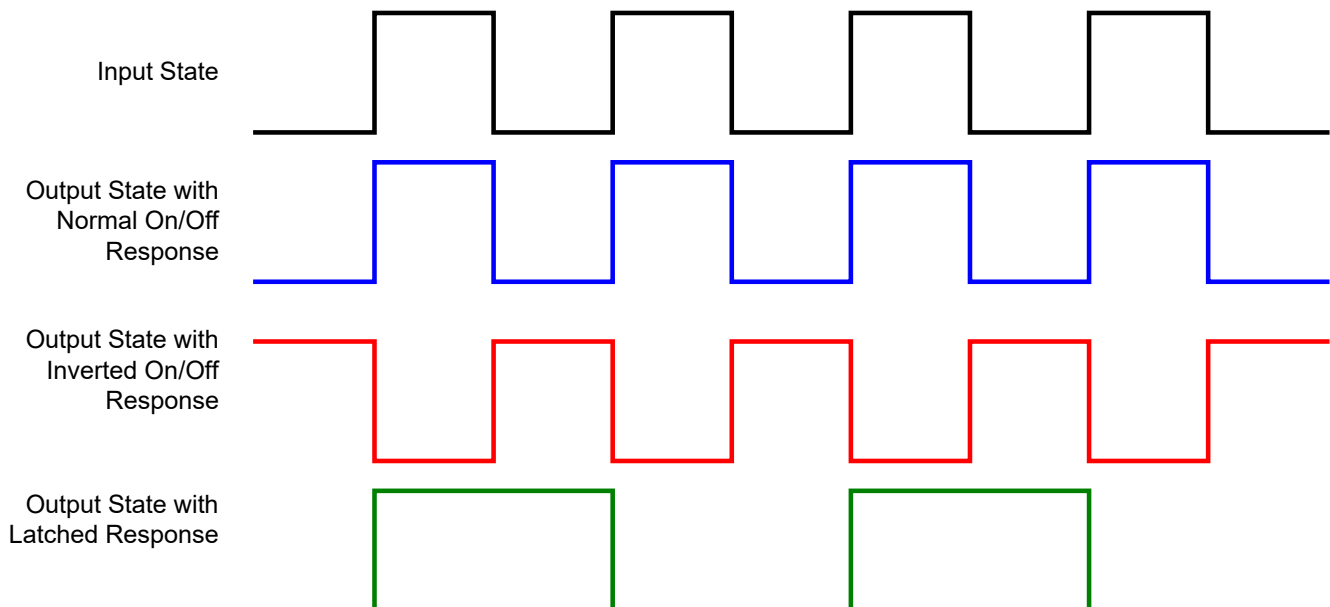

Figure 1: Output vs. Input States
**Digital:** The output will toggle between OFF and ON states based on the states of the enable input/J1939 status byte, the control input/J1939 command message, and the value in the "Response" setpoint. See Figure 1 below.